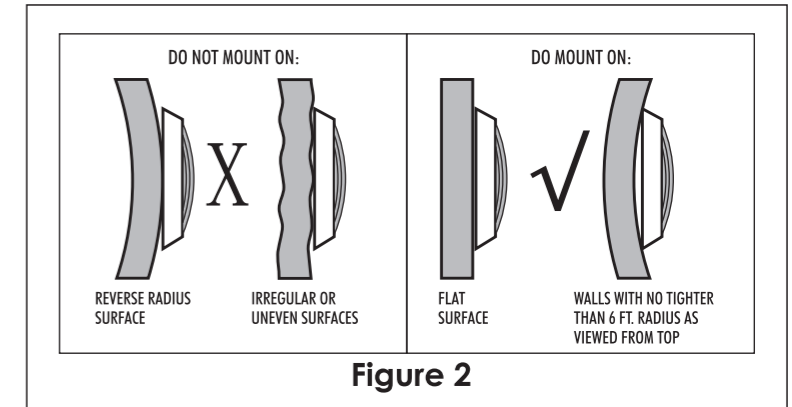

Figure 2
1) Locate position on a vertical wall where light is to be installed. The top of the light lens must be 45.5cm below normal water level, as required by NEC Article 680. The center of the mounting hub will line with the top of light lens. See Figure 2.
- 3) Wrap a length of the cord up to a maximum of 240cm long on the back of the light assembly. Wind a minimum of three (3) wraps of cord so that the last wrap stops at the top of the light. This extra cord allows you to bring the light out of the pool for revamping and serving.